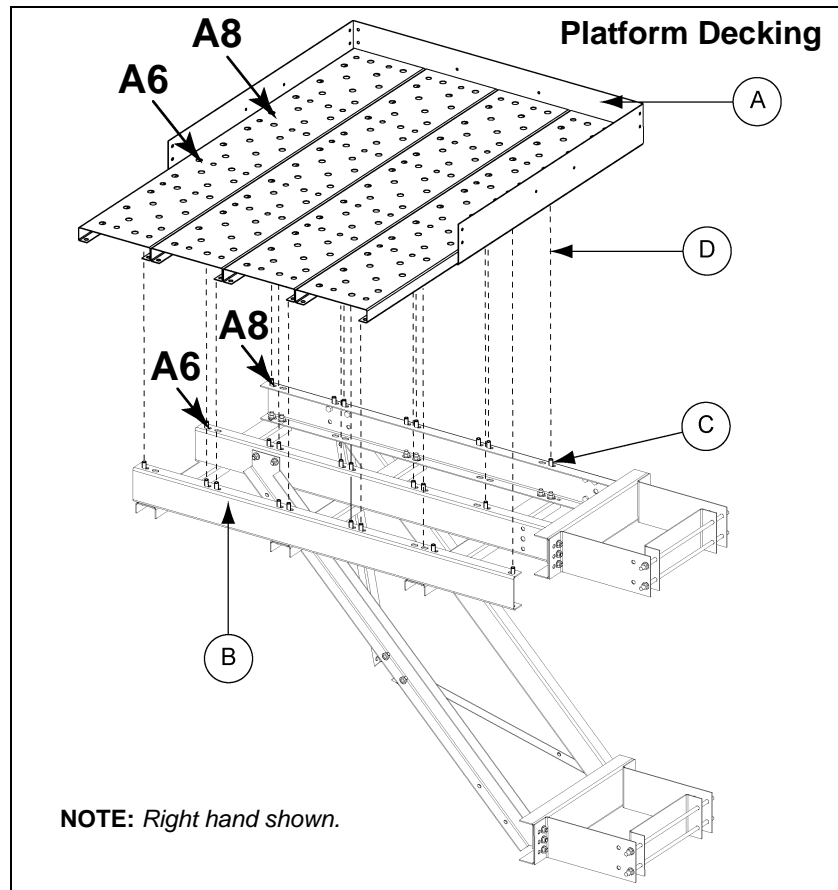

Figure 12D
2. Install platform decking weldment (GSB30141X) (A) to the platform support channels using twenty four (24) 1/2" x 1" bolt (S-7935) (C) and nuts (S-8506) (D). *(See Figure 12D.)*